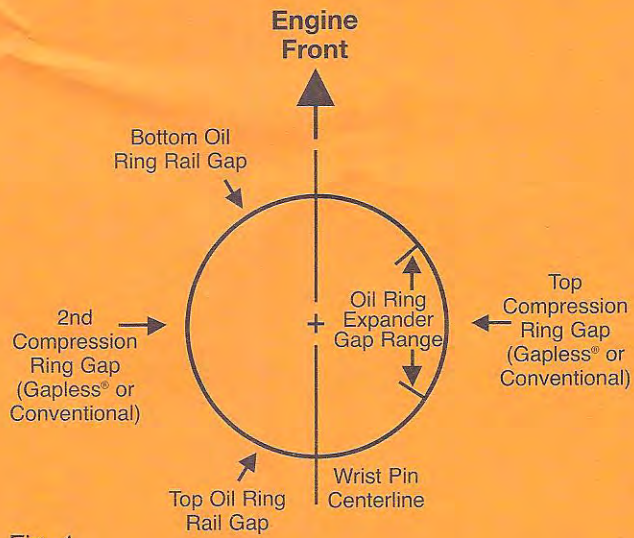

Fig. 1
- 1) Install machined ring first with groove side down and gap 180° from 2nd ring end gap (see fig. 1).
- 1) Install machined ring first with groove side down and gap 180° from top ring end gap (see fig. 1).
- 1) Three piece type - install as shown in figure 1.